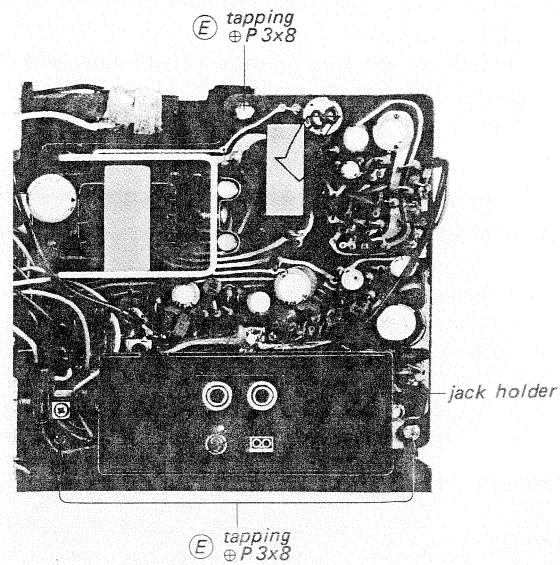

Fig. 2-7. I-f/af circuit board removal
2. Pull off the jack holder shown in Fig. 2-7.
3. Remove the three screws marked ② in Fig. 2-7.
4. Pull out the i-f/af circuit board carefully in the direction shown by the arrow in Fig. 2-7.